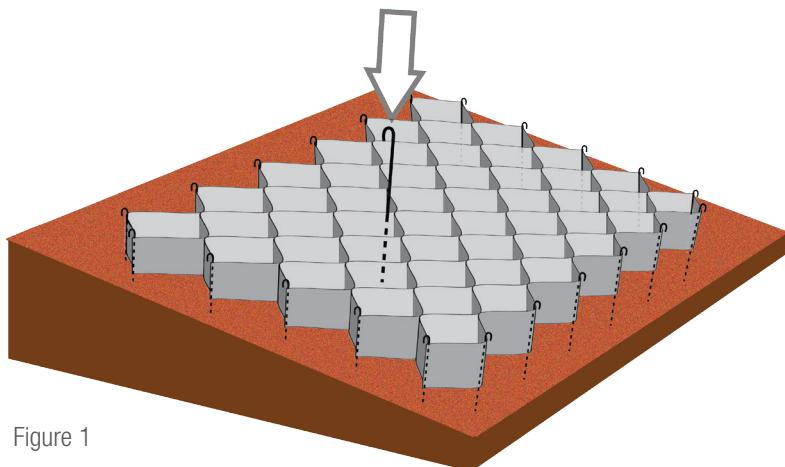

Figure 1
3. Partially open out the TERRAM Geocell panel and initially pin in place using steel u-bars (or other approved fixings) along the crest of the slope within the anchor trench. Fully expand the TERRAM Geocell panel down the slope manually pulling into tension so that the cells are fully open but without undue stress. Pin or infill several cells around the perimeter to hold the cells in an open and fully expanded position. Prior to filling fix every cell around the perimeter and generally on an orthogonal grid at 1m centres down and across the slope. (See figure 1, photo 2 and table 1). Spacing of the Geocell fixings will be determined by the scheme designer and is dependant on the slope gradient, cell size, soil infill depth and the sub grade soil parameters. Please contact TERRAM for further guidance on fixings and the appropriate grade of Terram geocell.
gradient and curves can easily be accommodated by either allowing some variations in cell shapes and sizes (over or under expanding the cells) or cutting an entire panel at an angle and then stapling to form a taper or L-shape. (See figures 1 to 4).